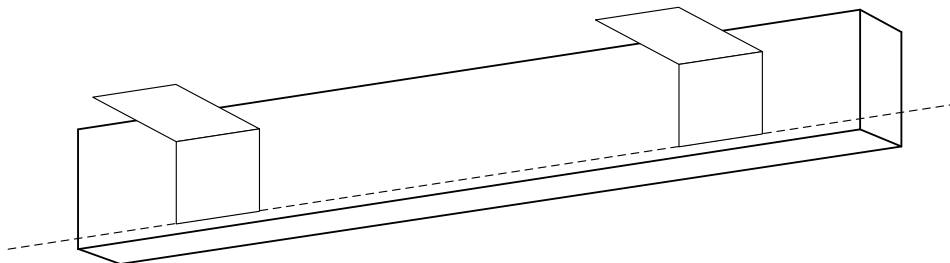

Figure 4 Cassette bracket outside mount alignment
- Measure and mark the bracket locations on the wall, using a level to be sure the brackets will be perfectly level. See Figure 4.